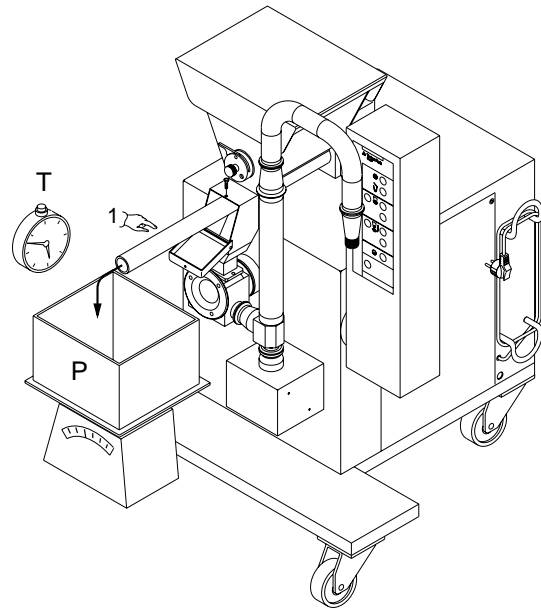

Fig. 5.2
1. Connect the screw feeder outlet pipe to rubber hose provided, leaving the secondary hoper lid open (Part.1 Fig.5.2). Place a container of suitable dimensions under the extension outlet to collect the ingredients.